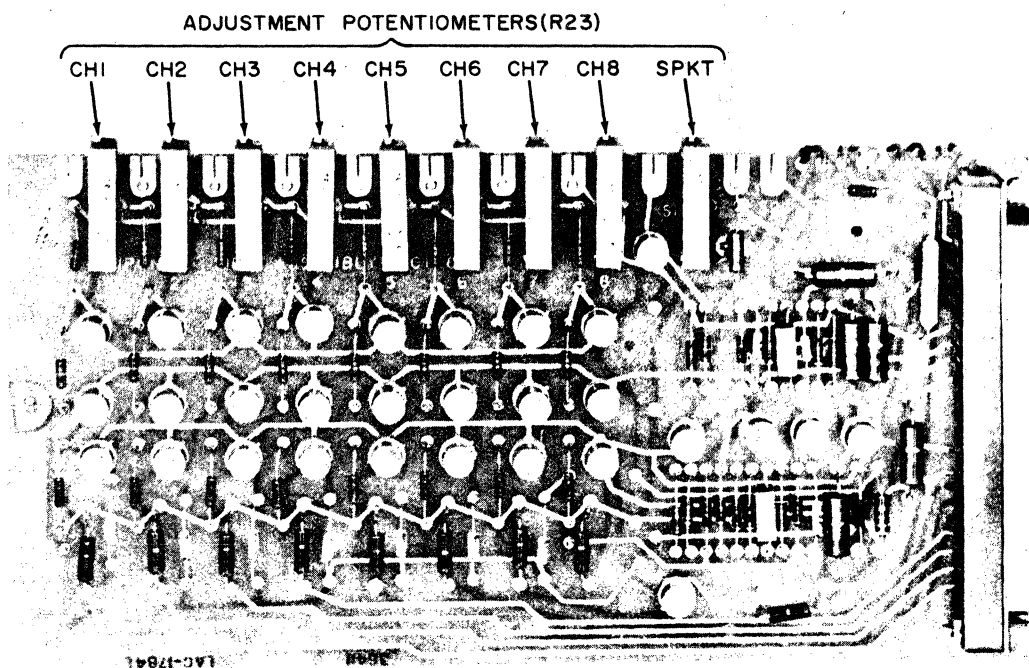

Figure 5-7 Amplifier Adjustment Locations
- b. Connect jumper lead across common (C) and normally open (NO) terminals of READY/LOAD switch S2.
- h. Adjust potentiometer R23 of sprocket channel circuit (see Figure 5-7) so that sprocket output is -15 volts (+15 volts if positive logic).
- f. Adjust potentiometer R23 of sprocket channel (see Figure 5-7) so that signal PSP is -15 volts (+15 if positive logic) for 40 % of cycle, and 0 volts for 60 % of cycle.
- i. Adjust potentiometer R23 of data channel 1 (see Figure 5-7) so that signal PD-1 is -15 volts (+15 volts if positive logic) for 70 % of cycle, and 0 volts for 30 % of cycle.